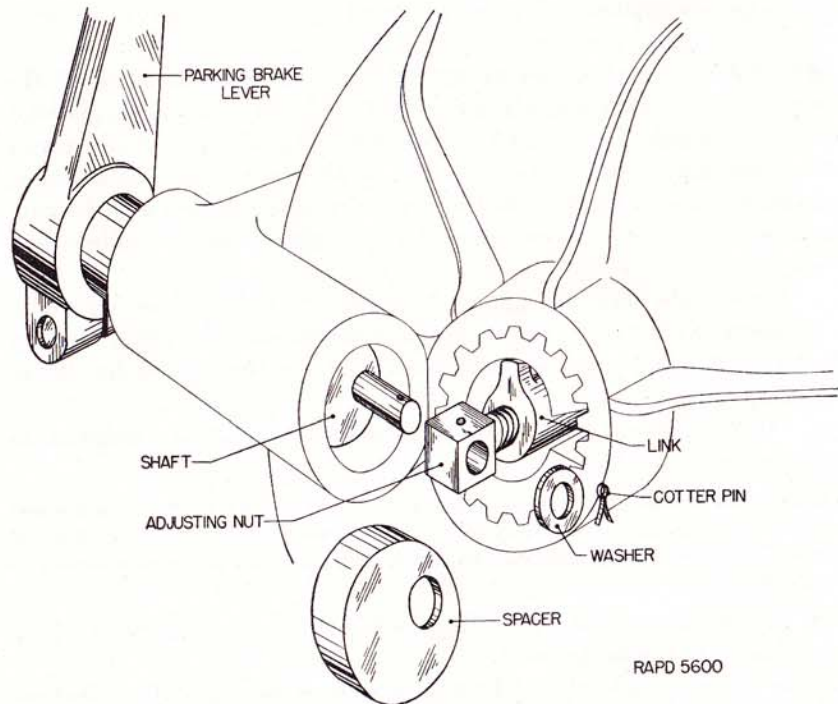

FIGURE 43.—Parking brake adjustment.
**88. Adjustment of parking brake** (fig. 43).—The parking brake depends upon a toggle joint for its locking action. This joint consists of an eccentric on the end of the cross shaft to which is fastened an eye and a link. The adjustment of this linkage should be such that application of the brake lever will cause the toggle action to go past center and into the locked position after seating the brake shoe lining firmly against the conical brake drum. To adjust the parking brake proceed as follows: